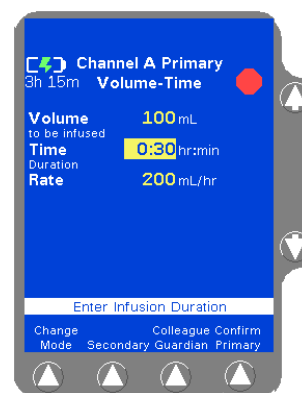

Figure 5 Volume-Time Programming Screen
3. Highlight **Primary Volume-Time**, then press the **Select** soft key. The Volume-Time Programming screen is displayed (Figure 5).